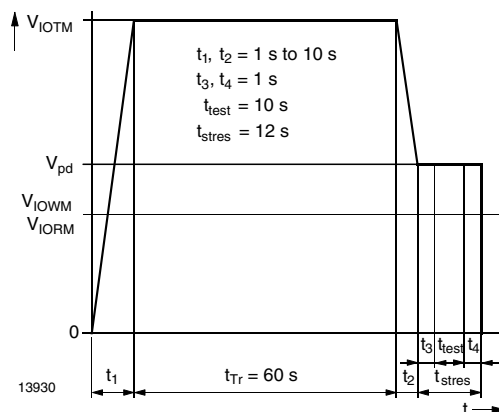

Fig. 2 - Test Pulse Diagram for Sample Test according to DIN EN 60747-5-5 (VDE0884), IEC 60747
- According to DIN EN 60747-5-5 (VDE 0884), § 7.4.3.8.2 (see figure 2). This optocoupler is suitable for safe electrical isolation only within the safety ratings. Compliance with the safety ratings shall be ensured by means of suitable protective circuits.